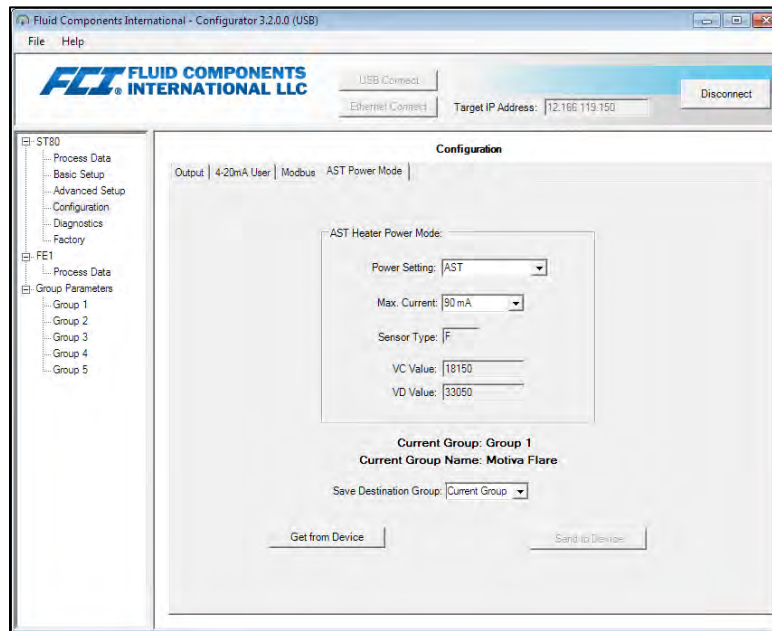

Figure 37 – Example AST Power Mode Tab (Configuration)
1. Access the **AST Power Mode** tab from the **Configuration** branch of the menu tree. See Figure 37 below.